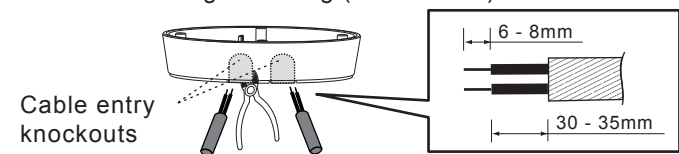

FIG. 12
3.4.3.2 To feed AC power cables through the side of junction box, please use the cutting pliers to break the cable entry knockouts on the side of junction box, then feed cables through it. Strip off 6 - 8mm of cable sheathing for wiring (See FIG.12).